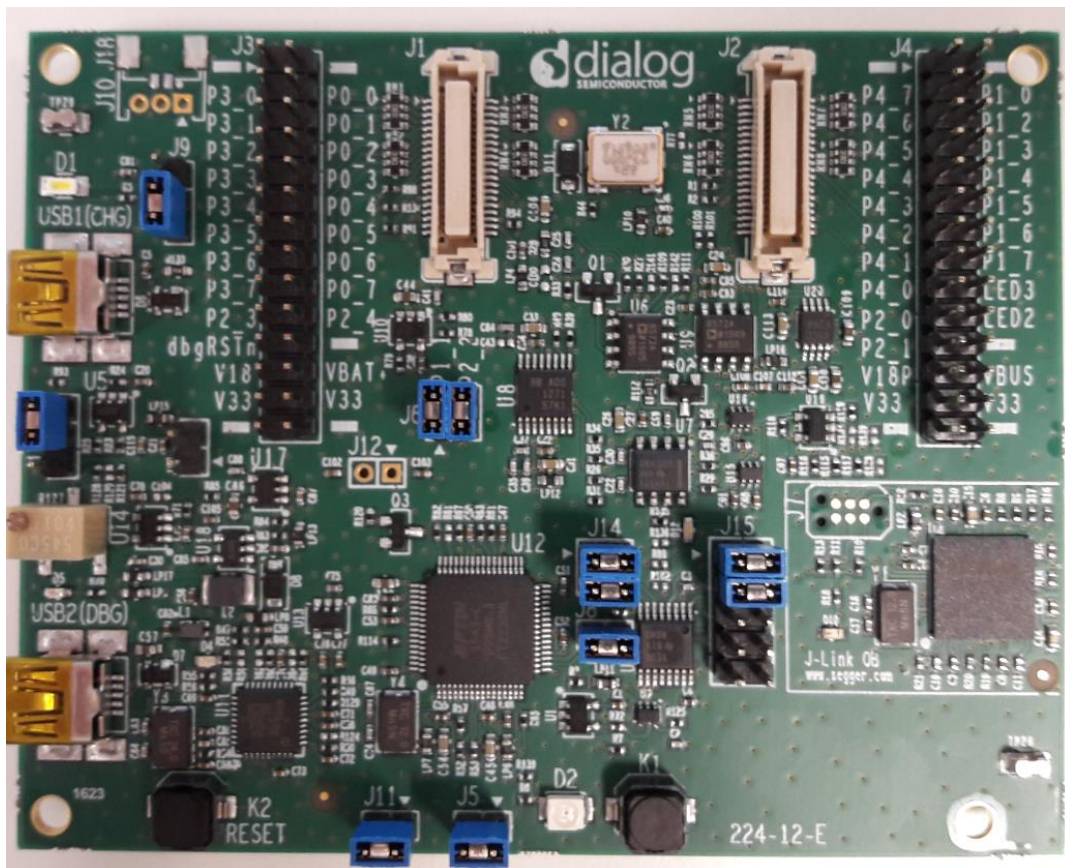
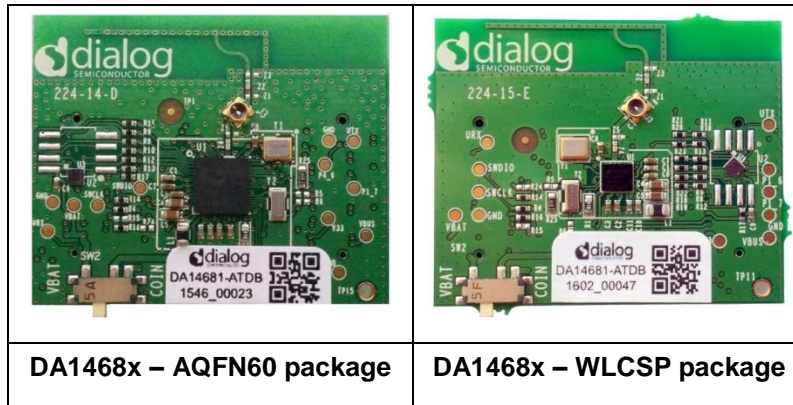

Figure 1: The DA1468x ProDK
Figure 2: The daughter-boards a) QFN60 and b) WLCSP to combine with the DA1468x ProDK Development Kit
Figure 1 illustrates the physical layout of the ProDK. The two (2) daughter boards containing DA1468x devices (AQFN60 as well as WLCSP packages) are shown in Figure 2.
The ProDK mainboard can be combined with one of the two daughter-boards shown in Figure 2. These daughter boards allow evaluation of the two different package options for the DA1468x devices. The daughter-boards each have a switch to select the power supply for the device: